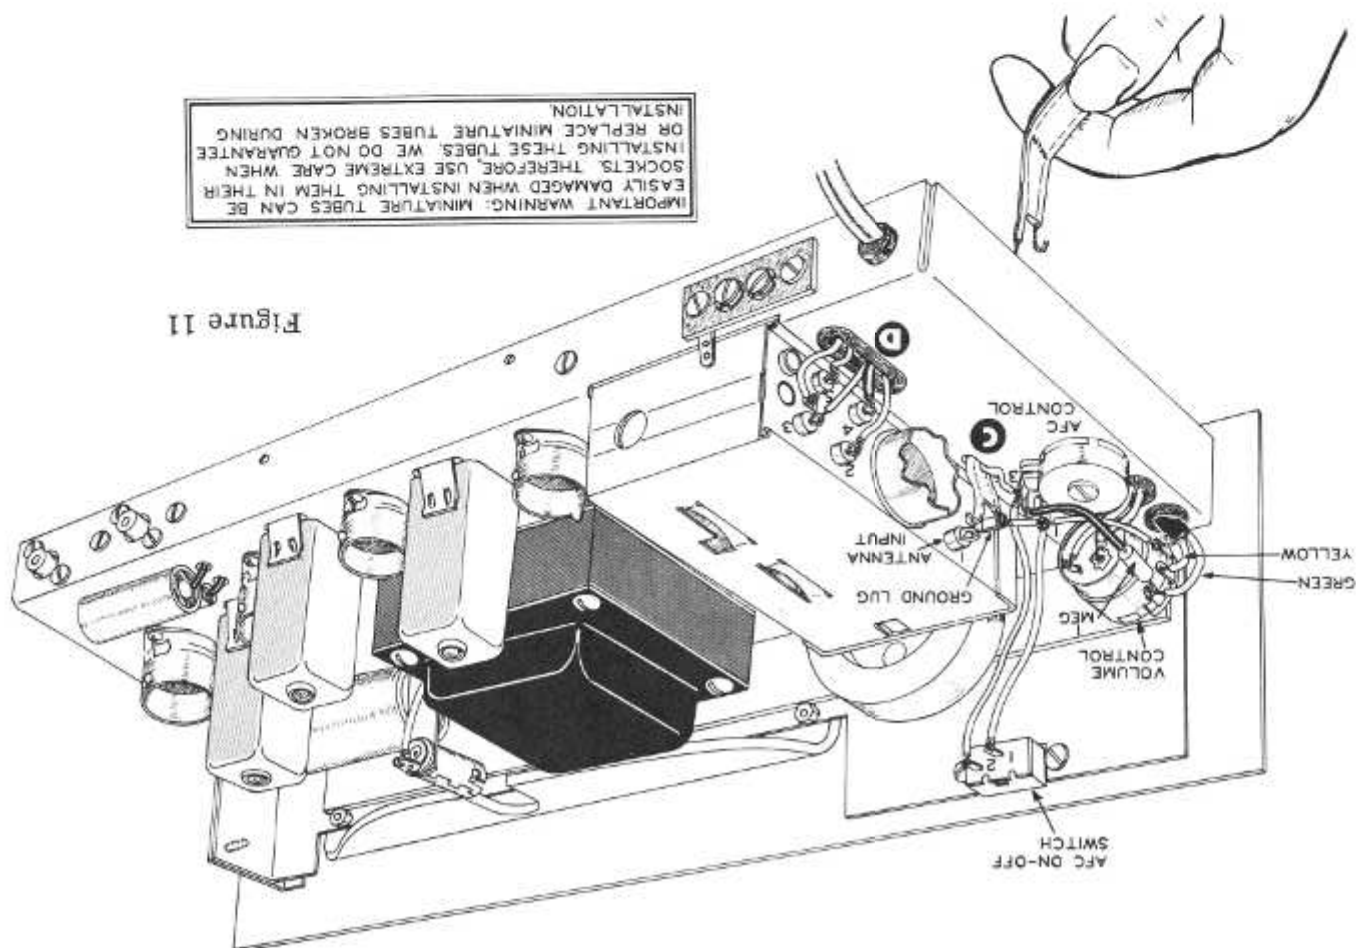

Figure 11
- (3) Clip the negative (-) end of this capacitor to 1 1/4" in length, and place 3/4" of sleeving over the lead. Connect this lead to terminal AA2 (NS).
- (4) Cut a length of hookup wire to 4" and strip both ends. Connect this wire from terminal BB2 (S-3) to terminal AA4 (NS).
- (5) Using sleeving, connect a 100 Ω 1/2 watt resistor (brown-black-brown) from terminal AA4 (S-2), up through grommet D to lug 4 (S-1) of the tuning unit. See Figure 11.
- Place the chassis on your work surface in the position shown in Figure 11. Holding this prepared segment of twin lead in your left hand, as shown, insert it up from the bottom of the chassis through hole C. The hook you prepared will come up adjacent to the ground lug on the tuning unit. Clamp the hook around the ground lug and solder it (S-1).
- Refer to Figure 11 for the next steps.
- (1) Refer to Figure 11 and connect a length of hookup wire from the bottom lug of the VOLUME control (NS) to lug 1 of the AFC control (NS).